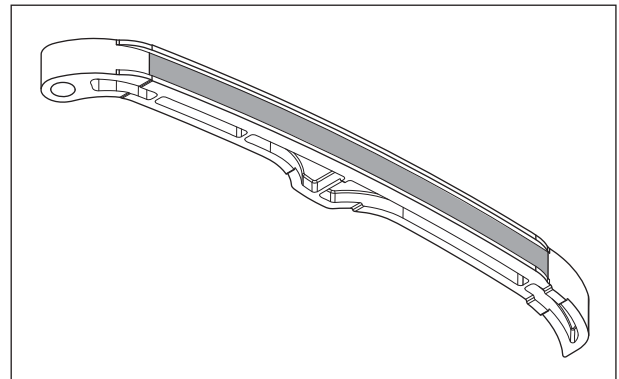

Fig. 3.69
- Inspect the tensioner cam chain for any distortion / damage, cuts or crack. If found any, replace the tensioner with new one. (Fig. 3.69)